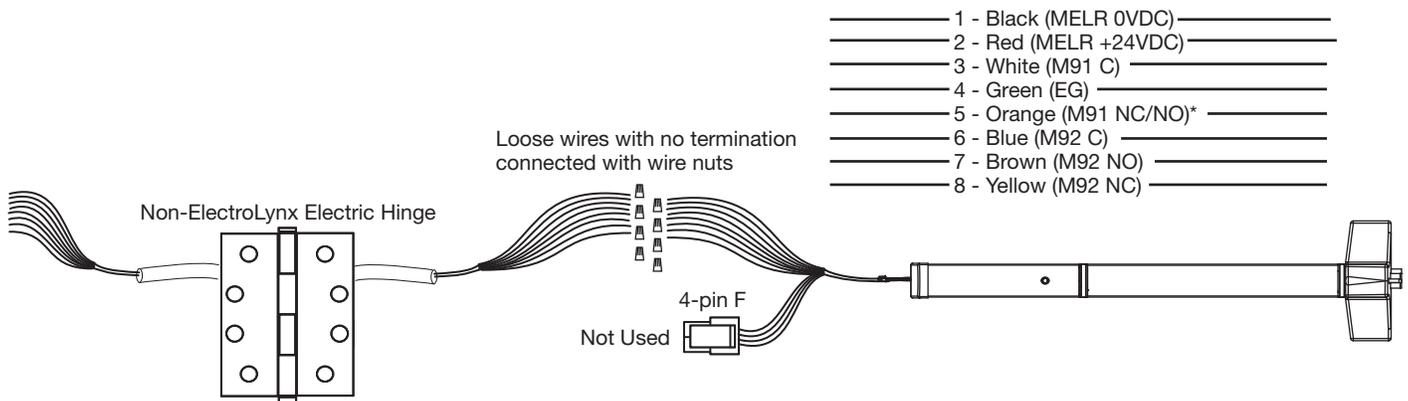

Figure 8 — Non-ElectroLynx Power Mode Wiring MELR Wires with ElectroLynx Connector Removed
i. Plug the 8-pin ElectroLynx connector from the pushbar into the 3" ElectroLynx harness or splice into non-ElectroLynx harness (**Figure 8**).